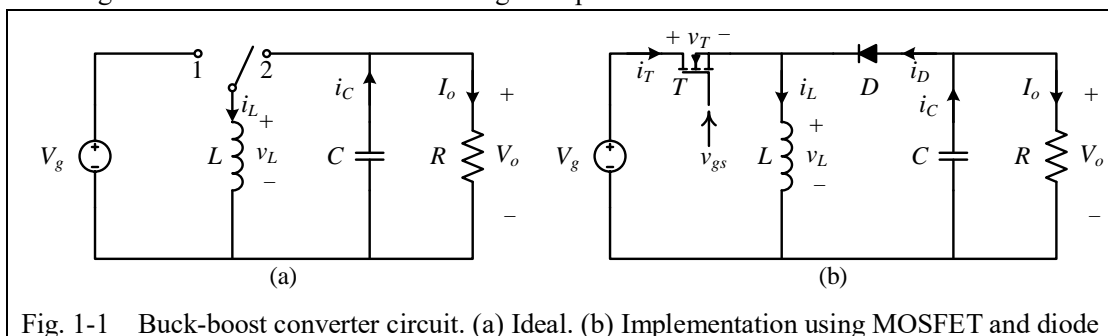

Fig. 1-1 Buck-boost converter circuit. (a) Ideal. (b) Implementation using MOSFET and diode
- 1) Sketch the waveforms of the following quantities in one switching cycle of the Buck-Boost converter shown in Fig. 1-1(b):  $v_{gs}$ ,  $v_T$ ,  $v_L$ ,  $i_L$ ,  $i_T$ ,  $i_D$  and  $i_C$ . **(20 points)**
(Hint: The gate-source voltage that controls the MOSFET  $T$  is denoted as  $v_{gs}$ . You can assume that the output voltage  $V_o$  is constant in this problem. However, you cannot neglect the ripple of the inductor current  $i_L$ . Pay attention to the voltage and current reference directions marked in Fig. 1-1(b).)
- 5) Use Simulink to create a simulation of the circuit with the parameters listed and derived in (4). **Include the simulation circuit and results in your submitted pdf file.** (15 points)
- (Note: The simulation results should show the waveforms of  $V_g$ ,  $V_o$ ,  $v_{gs}$ ,  $v_T$ ,  $v_L$ ,  $i_L$ ,  $i_T$ ,  $i_D$ ,  $i_C$  in steady state. Make sure the voltage and current reference directions in the simulation circuit match the ones marked in Fig. 1-1(b). Use appropriate legends to label your simulated waveforms.)